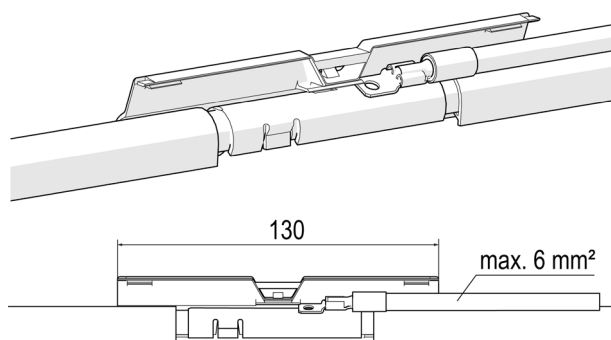

Fig. 82: Electrical feed with connector 35 A
- Connect or crimp the electrical line to the soldered crimp or flat plug connection of the bayonet connector (see Fig. 82 to Fig. 84).